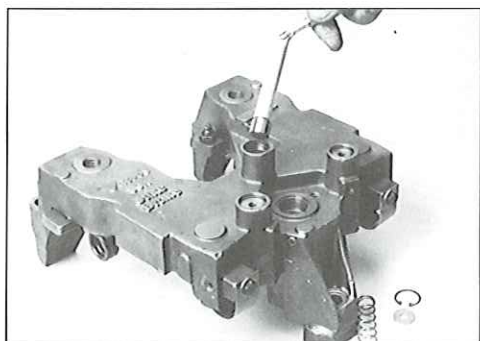

FIG. 52
3. Use a magnet to remove the piston from the accumulator bore (Fig. 52).